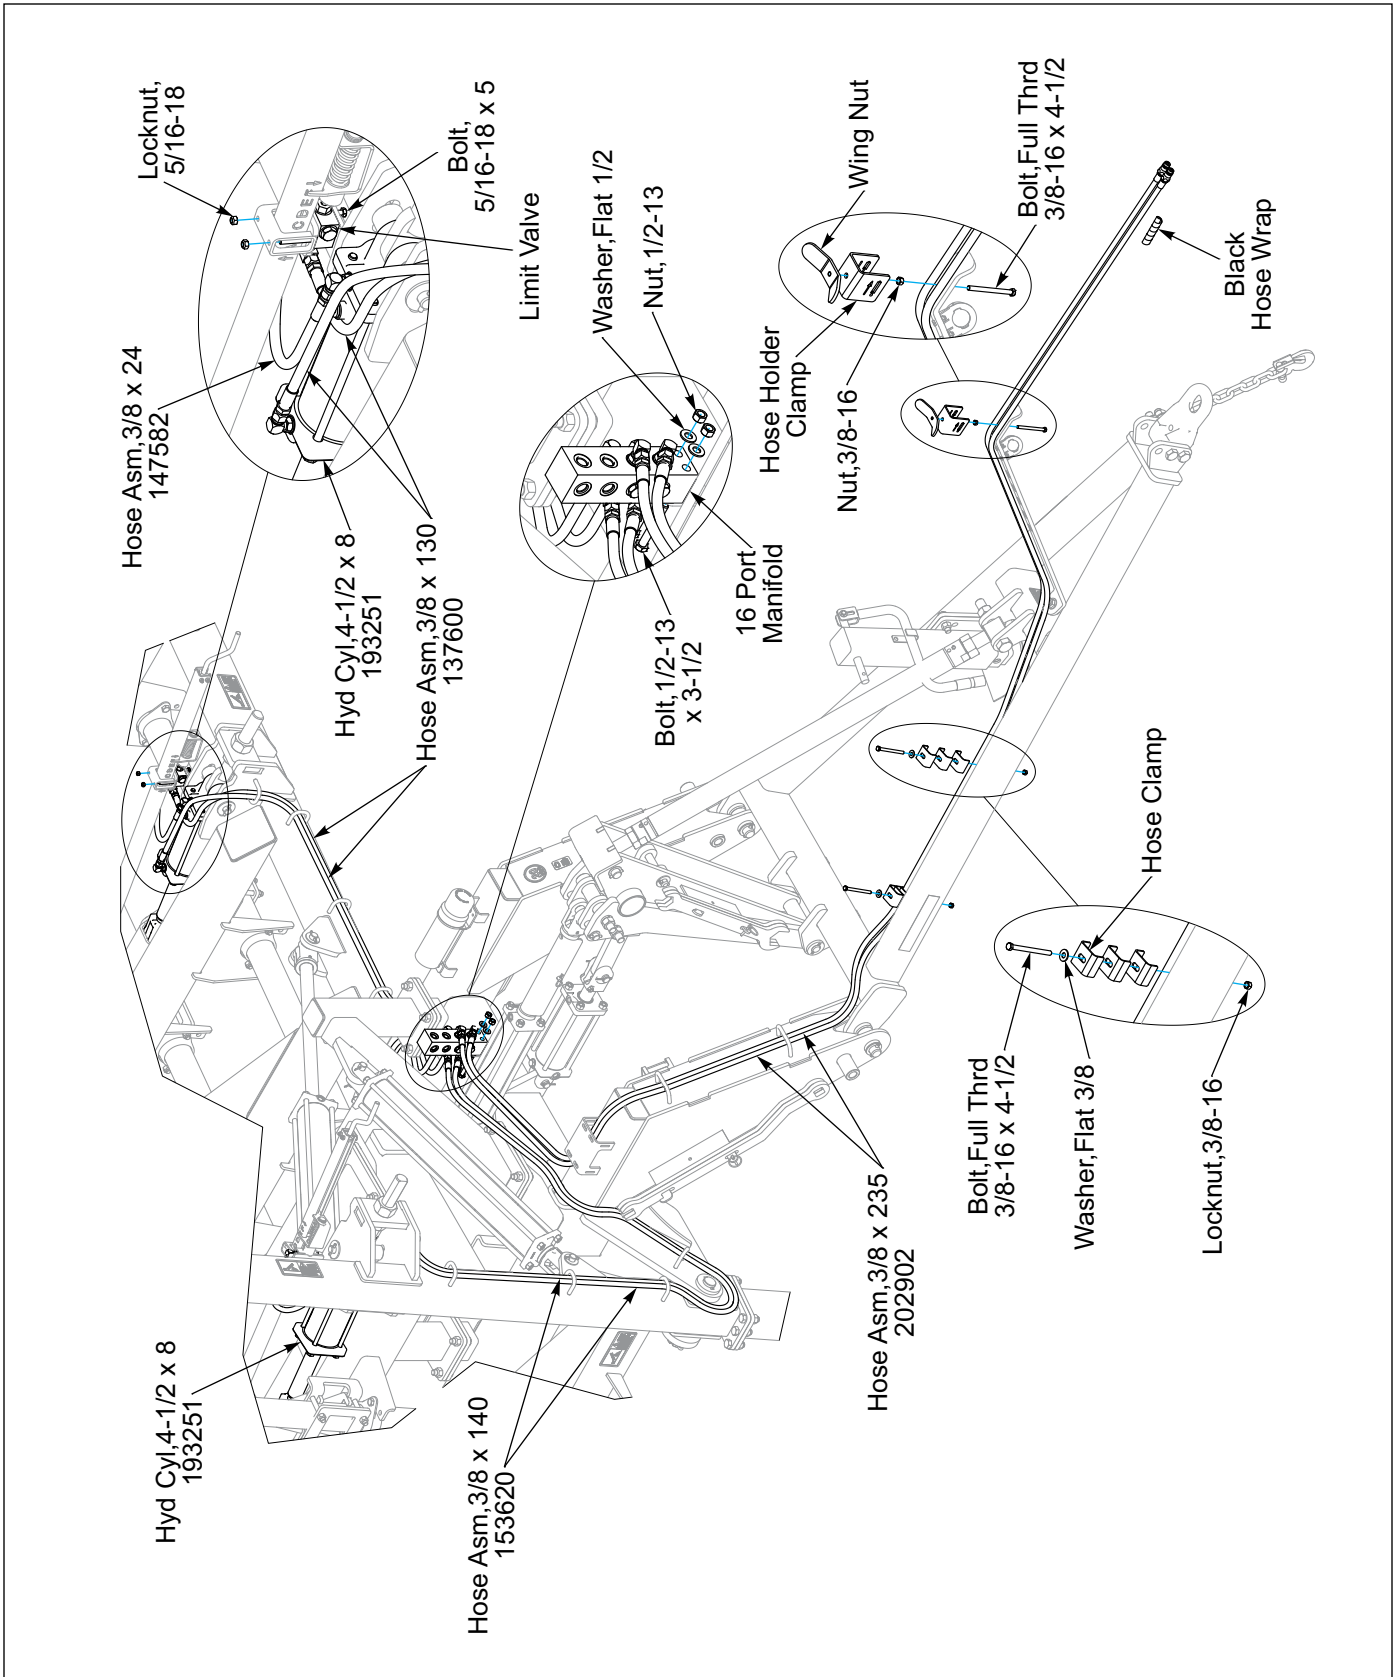
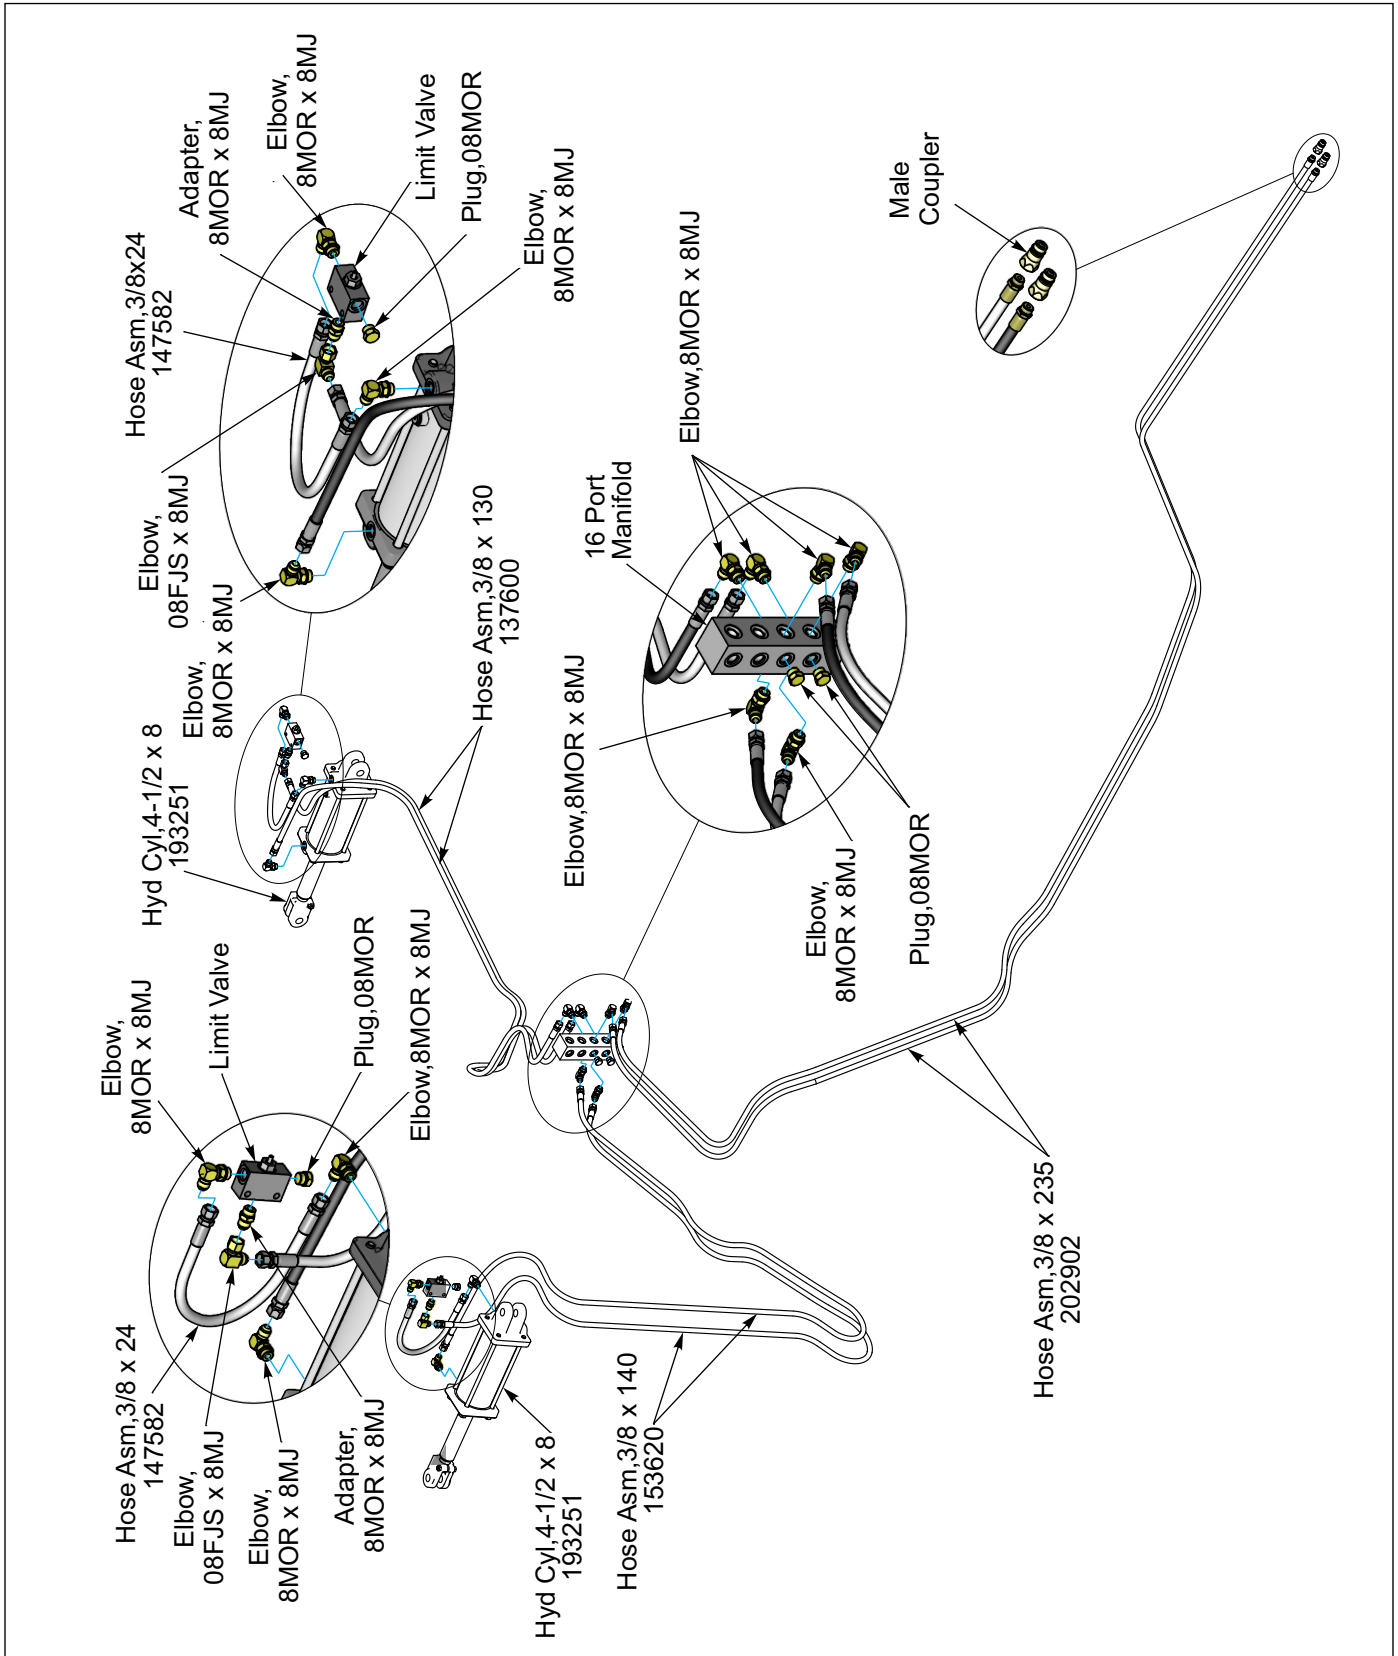

Figure 2-18: Hydraulic Tooth Control Layout
Figure 2-19: Hydraulic Tooth Control Schematic
Tooth Control - Black - See Figures 2-18 and 2-19.
3. Install the Tooth Control hoses. See Figures 2-18 and Figure 2-19. Wrap the Tooth Control System hoses near the Tractor Tips with black hose wrap.